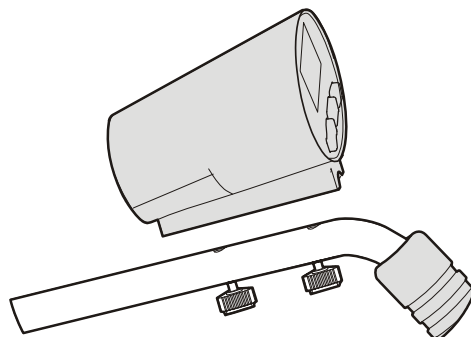

Fig. 3
3. Let the plastic pillar with two nuts on the bottom of the detector control box align with the two holes of the bend shape aluminum tube, and then lock it with bolts. (Fig.3)